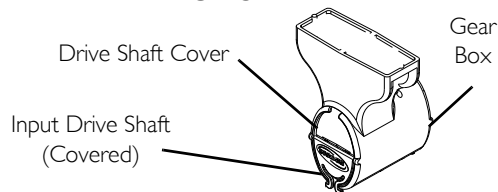

FIGURE 9 Assembling the Drive Shaft
For this procedure, refer to FIGURE 8 on page 52 and FIGURE 9 on page 53.
- ① If necessary, shift bed end to right or left to align the Hi/Lo motor output shaft spring-loaded coupler with the foot end gear box.
- ii. Ensure the Hi/Lo motor output shaft spring-loaded coupler is properly aligned with the foot end gear box as shown in Detail “A” of FIGURE 9 on page 53.